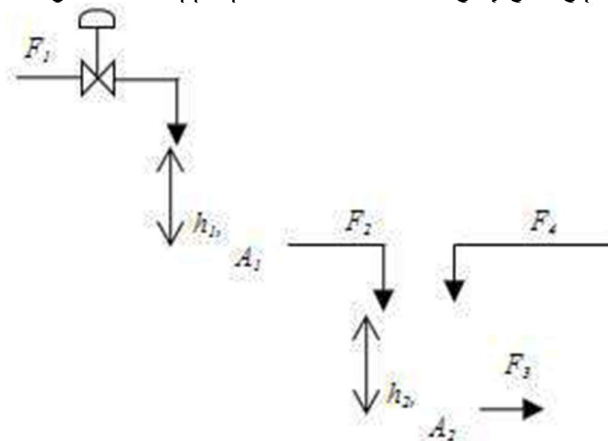

Fig. 3: The Two tanks connected in non-interacting fashion
- Q5 (a) Consider two tanks in series as shown in Fig. 3. Inflows  $F$  ( $F_1$ : inlet flow at tank 1,  $F_2$  and  $F_4$ : inlet flow at tank 2,  $F_3$ : outlet flow from tank 2),  $h$  ( $h_1, h_2$ ) and  $A$  ( $A_1, A_2$ ) represent the liquid flow rate, height of liquid and cross sectional area of tanks 1 and 2 respectively. Assume that the flow rate of an effluent stream from a tank is proportional to the cubic root of the liquid height. Take appropriate data if missing by giving proper justification. [3]